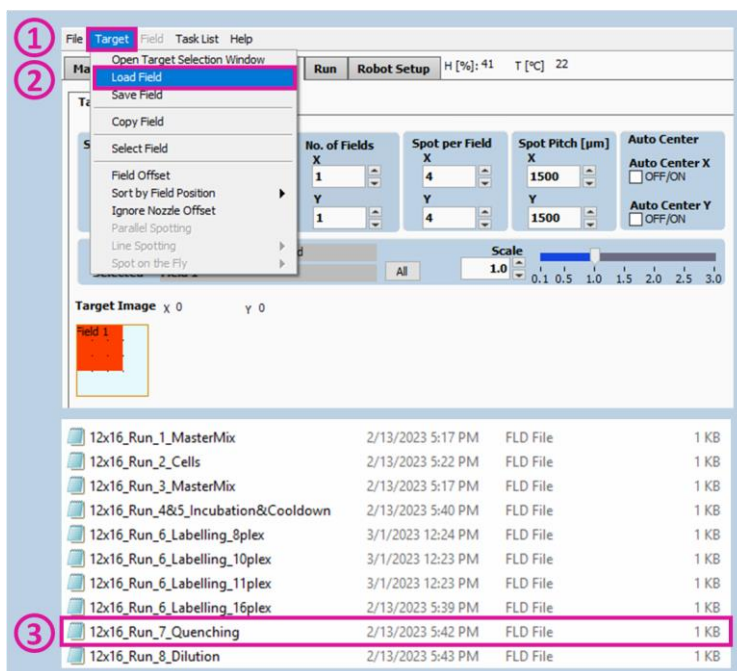
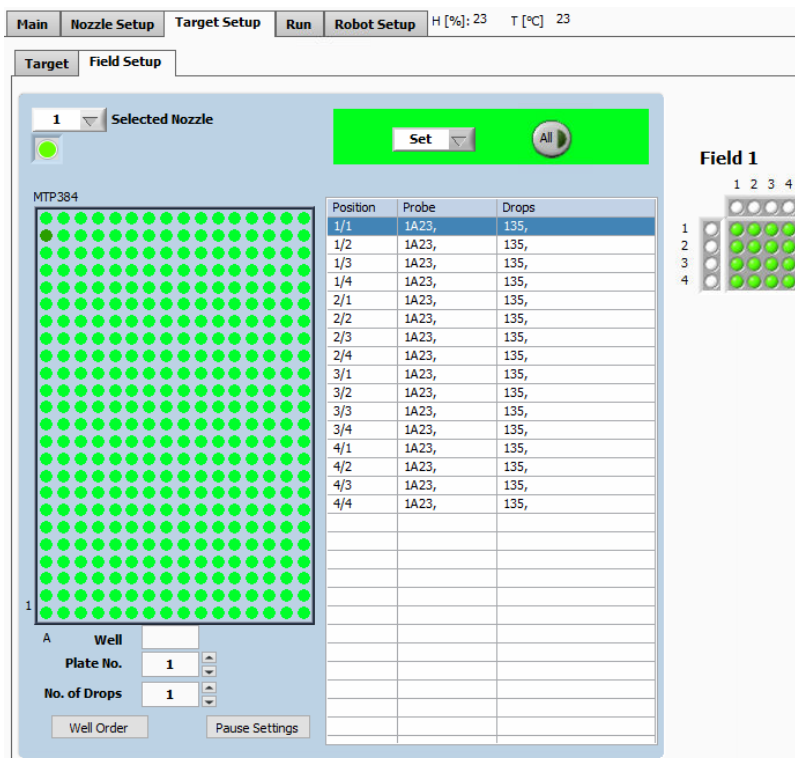

Figure 46: Load Field for Quenching
Figure 47. Field setup for Quenching
To dispense the quenching solution, load the field “12x16_Run_7_Quenching” which will spot 50 nL per well. To load the field, click on “Target” (Figure 46 ①) >> “Load Field” (Figure 46 ②) and select the field corresponding to the run “12x16_Run_7_Quenching” (Figure 46 ③). The field associated with quenching run will be displayed in the Field setup (Figure 47).